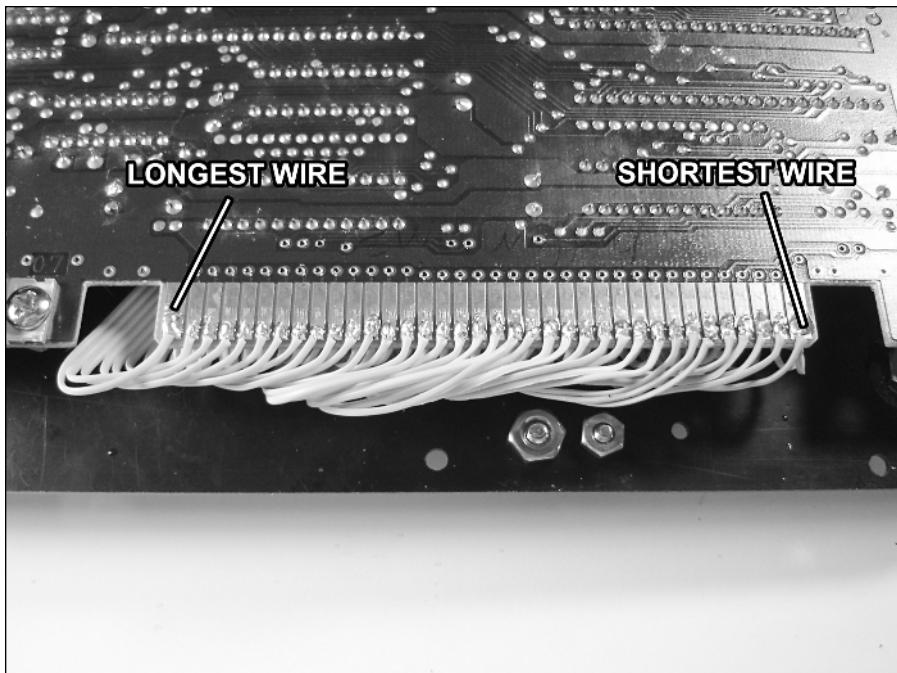

FIGURE 8-20: The bottom row of pins connected to the NES board.
5. Fold the NES board over onto the center match plate so that you can attach the remaining thirty-six wires from the bottom set of pins, as shown in Figure 8-20. The longest of the wires go to the left side, the shortest to the right. You may need to cut some of the wires shorter as you go so that they'll all fit as evenly as in the photo. (Remember, too much wire is better than not enough.)